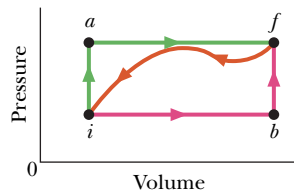

Fig. 18-39 Problem 47.
- 47 **SSM WWW** When a system is taken from state i to state f along path iaf in Fig. 18-39, $Q = 50$ cal and $W = 20$ cal. Along path ibf , $Q = 36$ cal. (a) What is W along path ibf ? (b) If $W = -13$ cal for the return path fi , what is Q for this path? (c) If $E_{\text{int},i} = 10$ cal, what is $E_{\text{int},f}$? If $E_{\text{int},b} = 22$ cal, what is Q for (d) path ib and (e) path bf ?